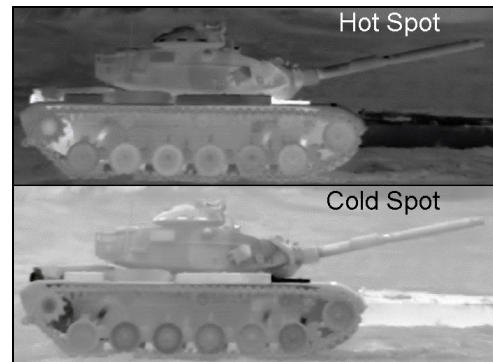

Figure 14 – Reversing FLIR display polarity
a. The contrast differences are the key; it doesn't matter if the target is warmer than the background or the background is warmer than the target. IR sensor operators, in fact, have the capability to switch views (by switching the polarity on their display) to better enhance their picture (see figure 14). The key is, the amount of temperature **difference** between the target/background. The bigger the difference, the better the target is seen against its background.